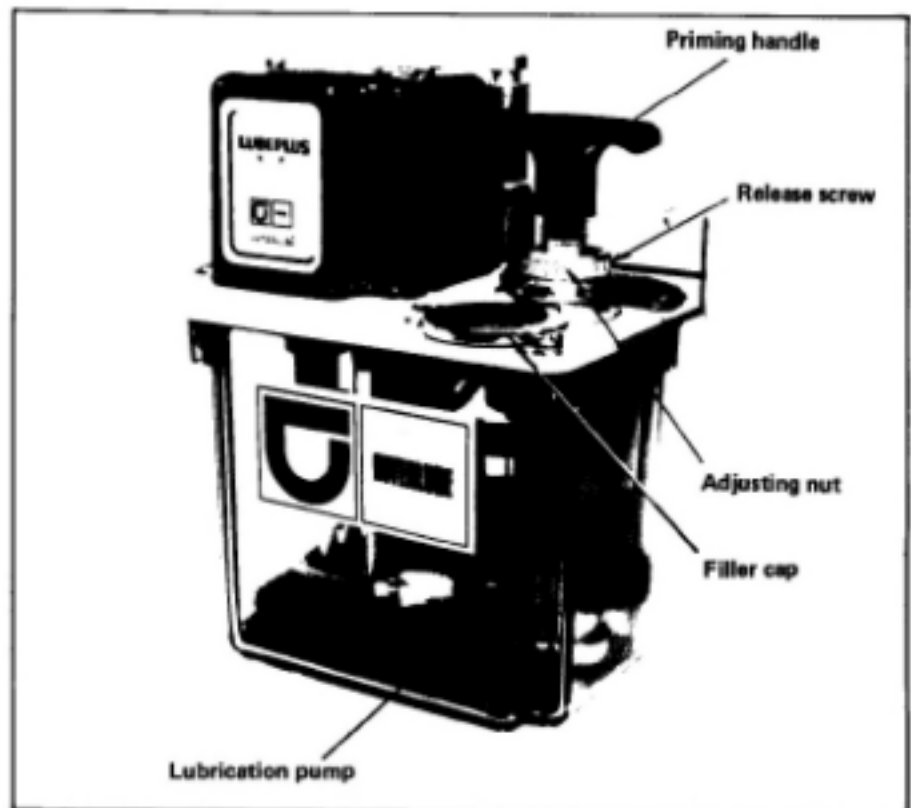

Figure 2.1 Automatic one-shot pump
- ii) The forced lubrication system from the automatic one-shot pump to supply ways, gibs and ballscrews including the Z axis (see Figure 2-1).